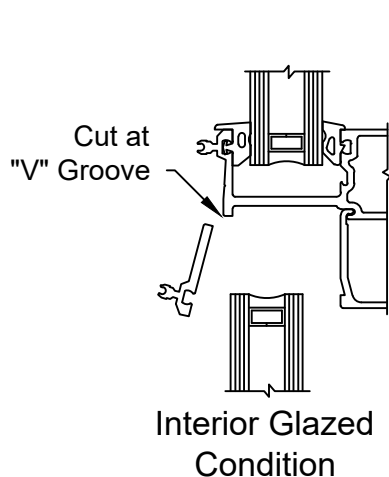

FIGURE 49
- R.2 Remove lower section of upper horizontal as shown in FIGURE 49.
At interior glazed; remove lower section of upper horizontal. SEE FIGURE 49.